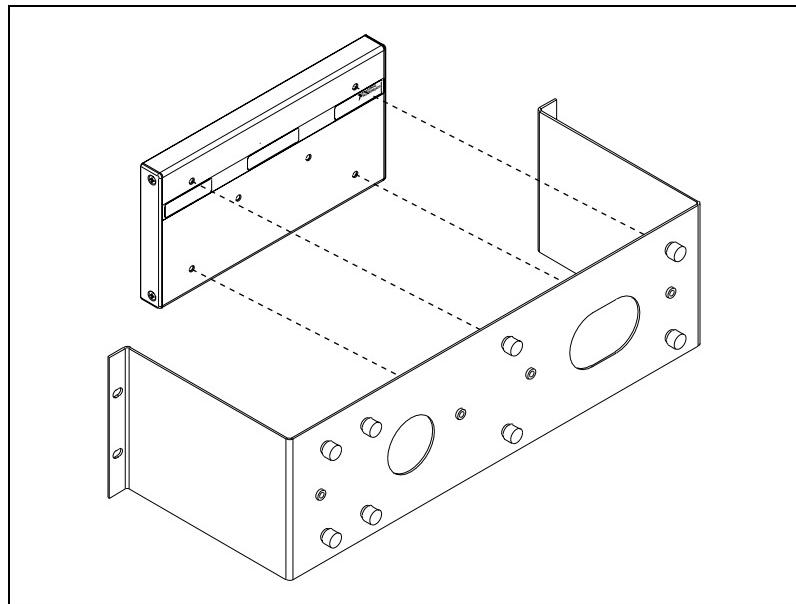

Figure 2-8. Fastening the Rack-Mount Accessory to the cFP-BP-4 Backplane
1. Fasten the rack-mount bracket to the back of the cFP-BP-x using the captive screws on the bracket. Refer to Figures 2-8 and 2-9.